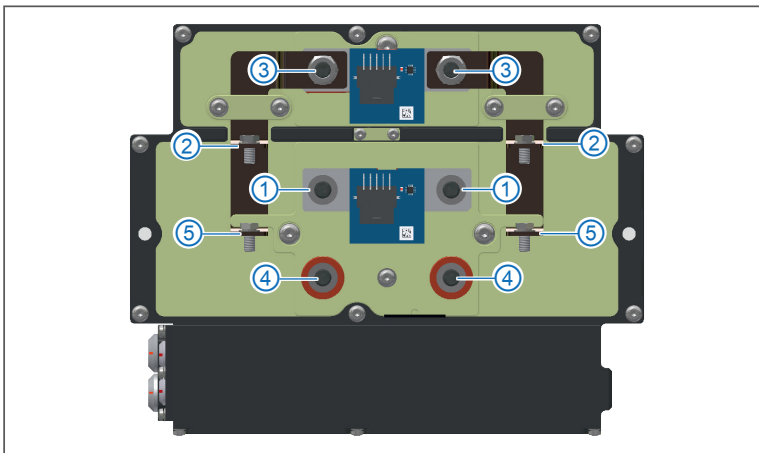

Fig. 5-4: HV BM 1.2+S, connectors for the HV power cables
Fig. 5-4 shows the connection terminals for mounting the inner conductors of the HV power cables HV- ① and HV+ ④ and the shields of the HV power cables ② and ⑤.
- ▶ The inner conductors of the power cables HV- are connected to the threaded bolts ①, on which the shunt module for measuring the inner conductor current is pre-mounted.
- ▶ The shunt for shield current measurement is pre-mounted on the threaded bolts ③. The shields of the HV power cables are connected to the busbars ② leading to the shunt with ring terminals using M5 screws/nuts.
- ▶ The inner conductors of the HV+ power cables are connected to the threaded bolts ④.
- ▶ The shielding of the HV power cables is connected to the busbars ⑤ using ring terminals with M5 screws/nuts.
- ▶ For mounting the ring terminals of the HV- and HV+ shieldings, M5 screws/nuts with one toothed washer and one flat washer are pre-mounted on the busbars ② and ⑤.